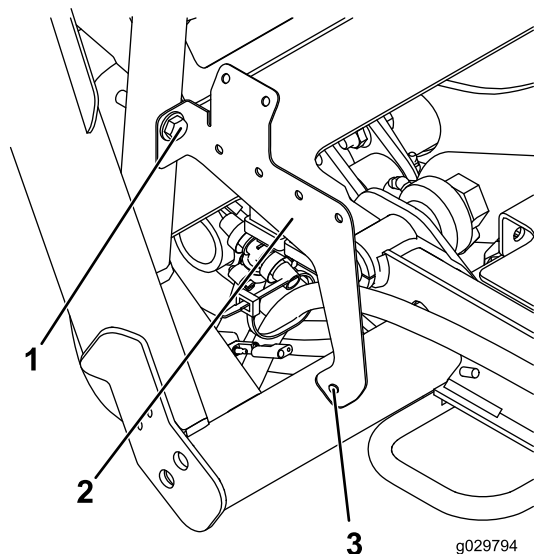

Figure 25
1. Loosely mount the relay bracket to the frame using a bolt (3/8 x 2 inches), washer (0.406 inch), and nut (3/8 inch), as shown in Figure 25.
2. Mark the location indicated in Figure 25.